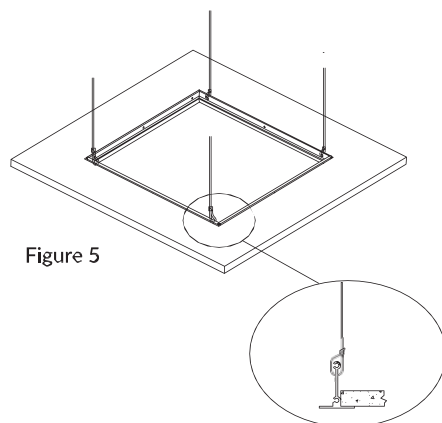

Figure 5
- Suspend frame from four points using the holes provided on the supports.(Figure 5)